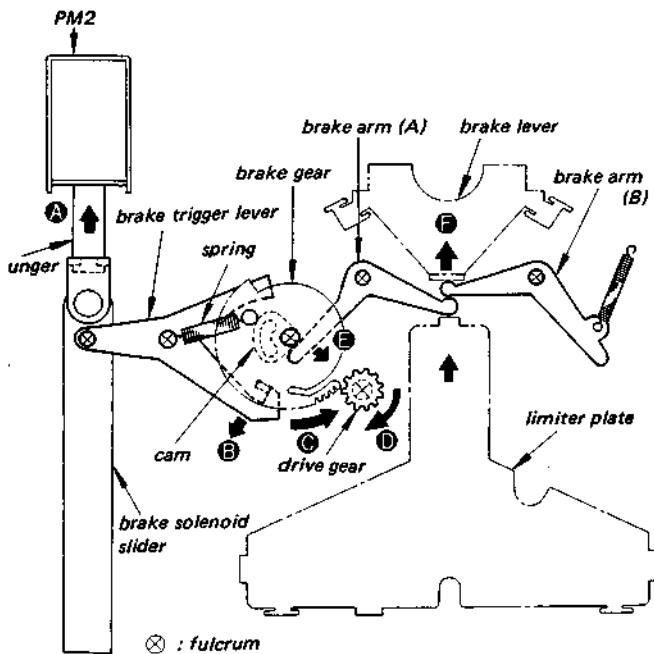

Fig. 1-1
Brake Release during fast forward mode and rewind mode. See Fig. 1-1.
4. When the cam pushes the head arm (A) in the direction shown by the arrow **Ⓔ**, the limiter plate moves in the direction shown by the arrow **Ⓕ**. Thus, the head deck is lifted and the head contacts the tape.
5. With the limiter plate moving, the brake lever moves in the direction shown by the arrow **Ⓖ** in Fig. 1-1 and releases the brake.